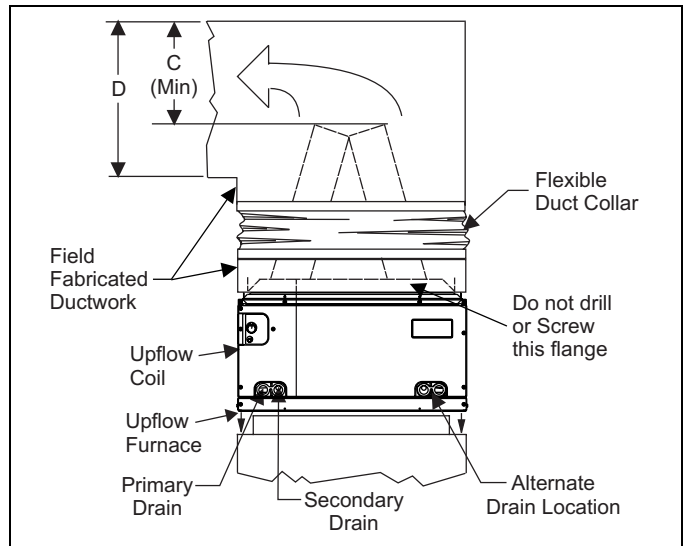

FIGURE 6: PC Series Upflow Coil Installation
1. Position the coil casing over the furnace opening as shown in Figure 6.
NOTE: Dimension "C" should be at least 2/3 of dimension "D". See Figure 6
These coils are supplied ready to be installed in a right hand position or a left hand position. When used in conjunction with a horizontal furnace (blow through) application, the coil should be oriented with the opening of the "A" coil closest to the furnace. See Figure 6.
NOTE: Each coil is shipped with an external tie plate that should be used to secure the coil to the furnace. It should be installed on the back side of the coil using the dimpled pilot holes. See Figure 6.
Do not drill any holes or drive any screws into the front duct flange on the coil in order to prevent damaging coil tubing. See Figure 6